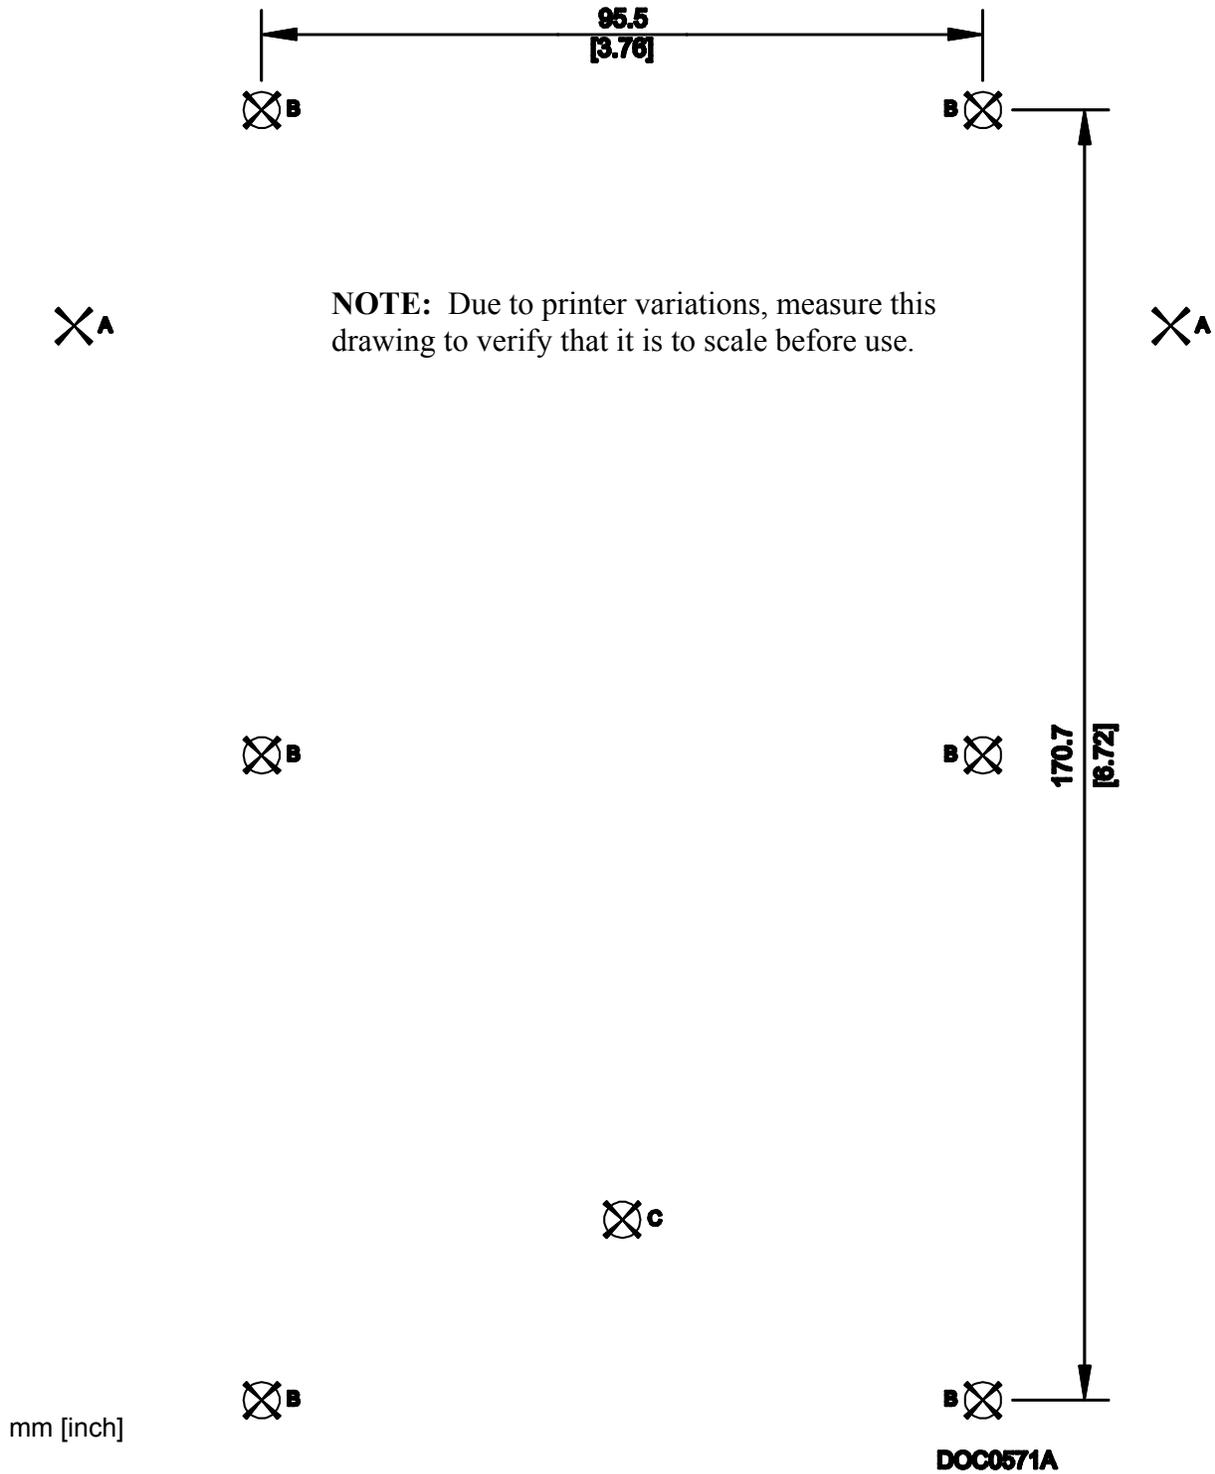

Figure 4-6. Enclosure Mounting Locations
1. Copy Figure 4-6 to a sheet of paper that you can dispose of when finished. Reduce or enlarge the drawing until Figure 4-6 is to scale.
2. Attach the sheet of paper with Figure 4-6 to the enclosure. Orient the paper so that the line marked 95.5 (3.76) is at the top. If installing on a EN23 or EN37 enclosure door, use the two locations marked “A” to align with the threaded inserts on either side of the existing display cutout.
4. Remove the sheet of paper with Figure 4-6 and drill 5.6 mm (0.219 inch) diameter holes at six locations marked “B”.